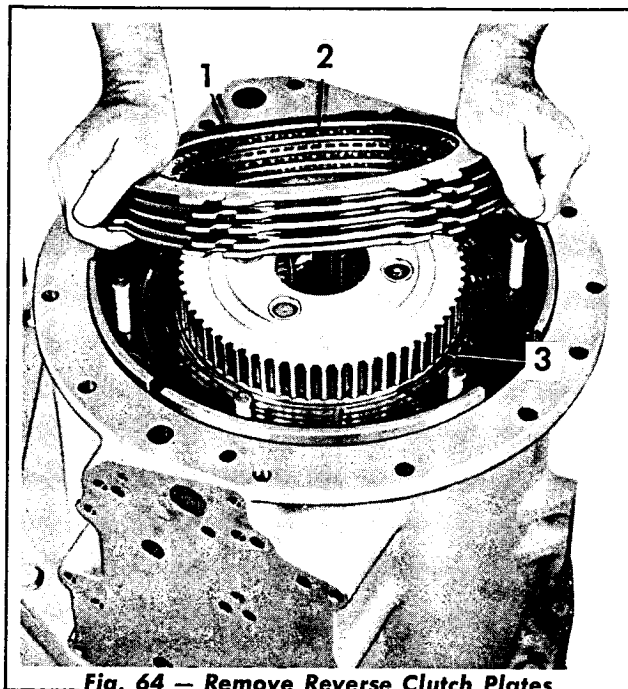

Fig. 64 — Remove Reverse Clutch Plates
2. Remove the five external and the four internal splined reverse clutch plates (Fig. 64). Note the clutch plate positioning ring.